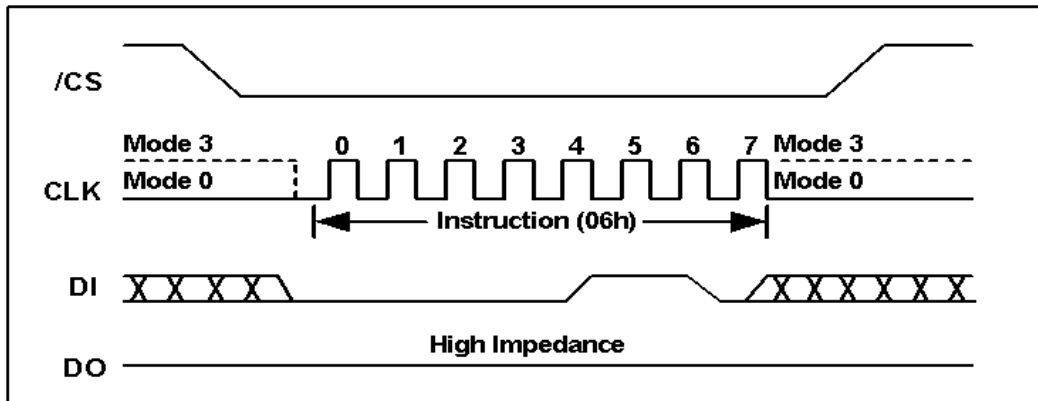

Figure 4. Write Enable Instruction Sequence Diagram
Instructions vary in length from a single byte to several bytes and may be followed by address bytes, data bytes, dummy bytes (don't care), and in some cases, a combination. Instructions are completed with the rising edge of edge /CS. Clock relative timing diagrams for each instruction are included in figures 4 through 20. All read instructions can be completed after any clocked bit. However, all instructions that Write, Program or Erase must complete on a byte boundary (/CS driven high after a full 8-bit have been clocked) otherwise the instruction will be terminated. This feature further protects the device from inadvertent writes. Additionally, while the memory is being programmed or erased, or when the Status Register is being written, all instructions except for Read Status Register will be ignored until the program or erase cycle has completed.
The Write Enable instruction (Figure 4) sets the Write Enable Latch (WEL) bit in the Status Register to a 1. The WEL bit must be set prior to every Page Program, Sector Erase, Block Erase, Chip Erase and Write Status Register instruction. The Write Enable instruction is entered by driving /CS low, shifting the instruction code "06h" into Data Input (DI) pin on the rising edge of CLK, and then driving /CS high.